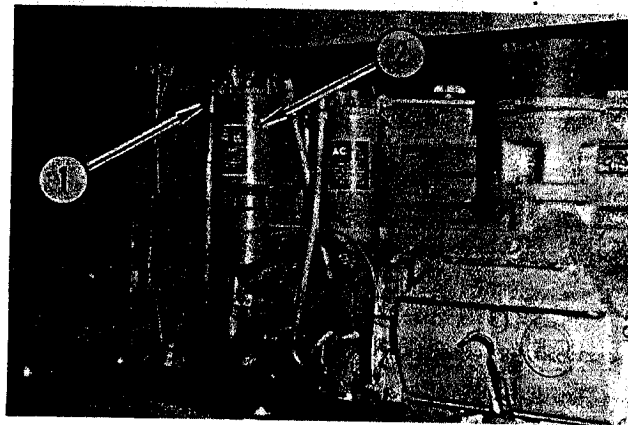

FIGURE 7. FUEL FILTER
Refer to Figure 7. Disconnect fuel line (1) at top of primary filter (2). Remove temperature sending unit from water jacket. Carefully roll sending unit tube into a coil and lay to one side of frame. If radiator was not removed, disconnect tail light and stop